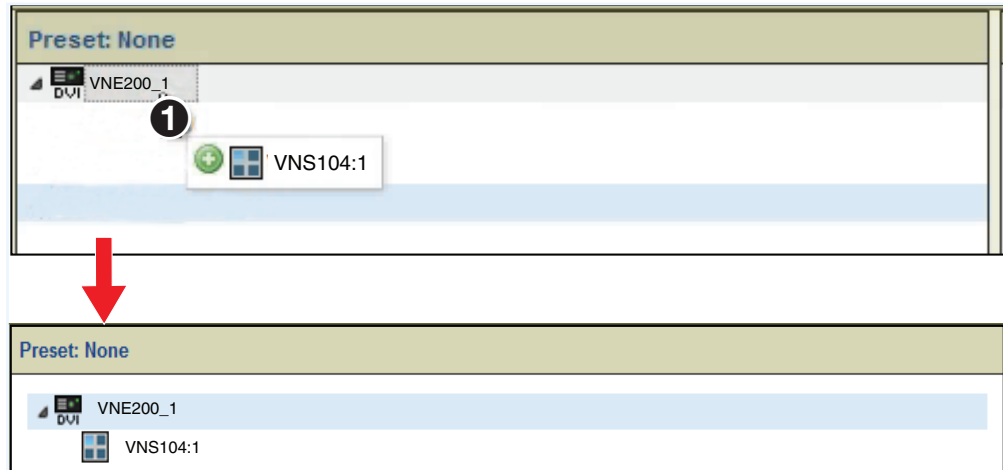

Figure 101. Presets, Drag and Drop the VNS 104
3. Drag one of the four software decoder channels (see figure 101, ❶) from the **Device List** and drop it onto the source device in the **Preset** panel.